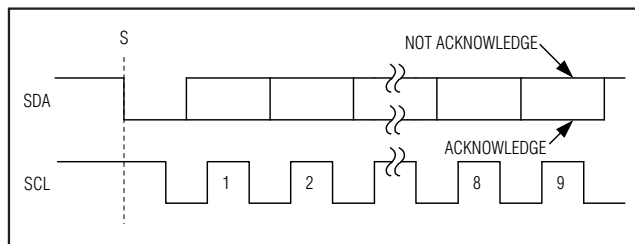

Figure 6. Acknowledge Bits
Data transfers are acknowledged with an acknowledge bit (A) or a not-acknowledge bit ( $\bar{A}$ ). Both the master and the MAX11612-MAX11617 (slave) generate acknowledge bits. To generate an acknowledge, the receiving device must pull SDA low before the rising edge of the acknowledge-related clock pulse (ninth pulse) and keep it low during the high period of the clock pulse (Figure 6). To generate a not-acknowledge, the receiver allows SDA to be pulled high before the rising edge of the acknowledge-related clock pulse and leaves SDA high during the high period of the clock pulse. Monitoring the acknowledge bits allows for detection of unsuccessful data transfers. An unsuccessful data transfer happens if a receiving device is busy or if a system fault has occurred. In the event of an unsuccessful data transfer, the bus master should reattempt communication at a later time.